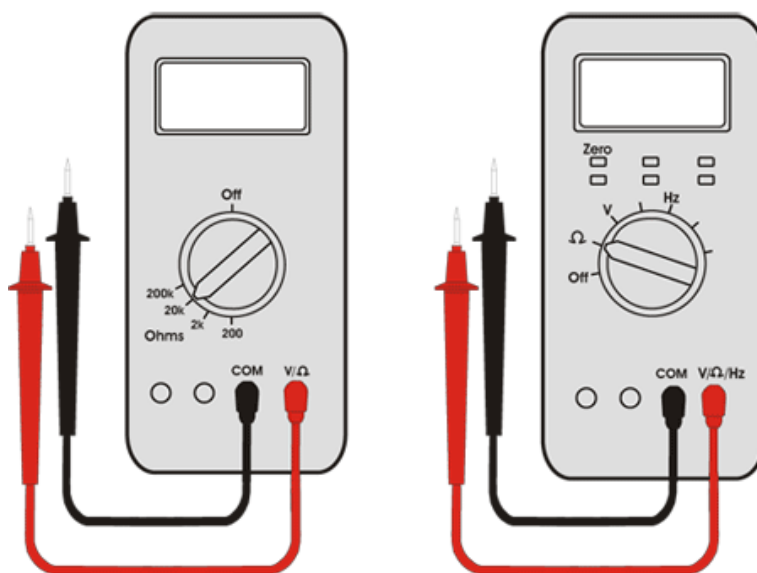

Fig. 5
- use a continuity tester (Fig. 5) to check for a broken wire (open circuit), or